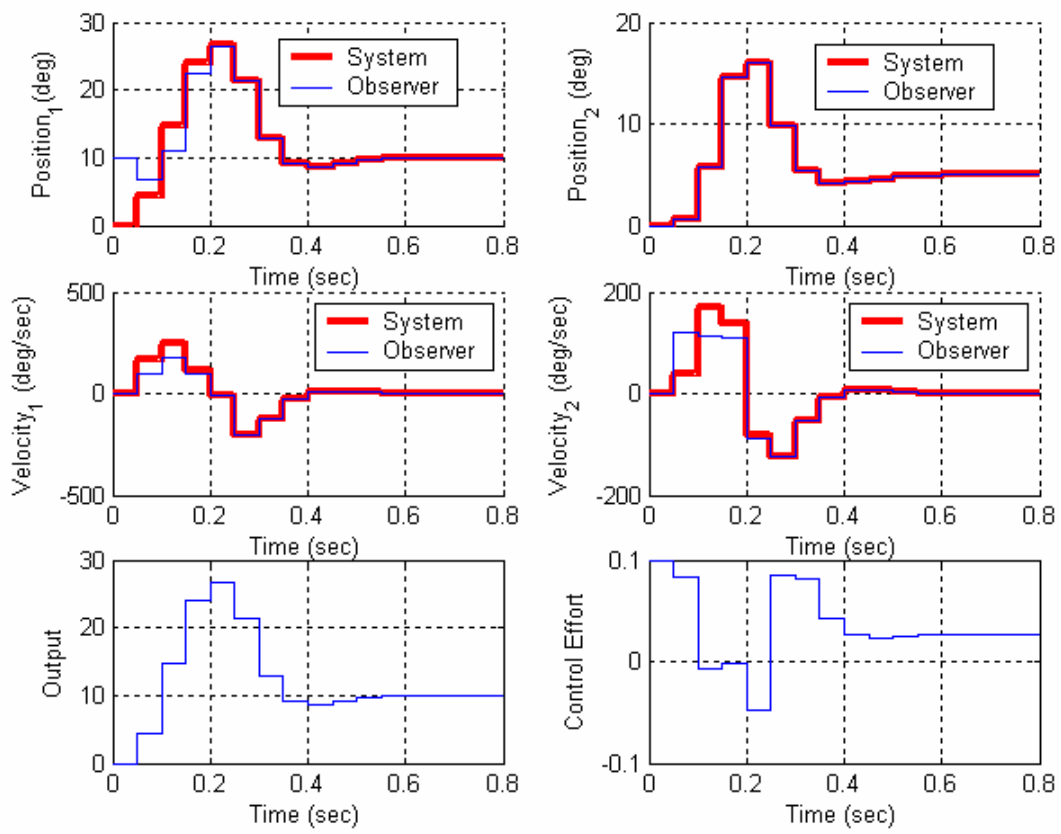

Figure 2: Results for problem 2b.
b) Place all the state feedback poles at 0.2, and the observer poles at 0.1. Assume the position of the second disk is available to the observer and the system output is the position of the first disk. The velocities of the disks are initially estimated to be zero. The estimated position of the first disk is assumed to be 10 degrees and the estimated position of the second disk is assumed to be 0 degrees. The real system starts at rest. For a 10 degree step input you should get the graph shown in Figure 2. Turn in your plot.